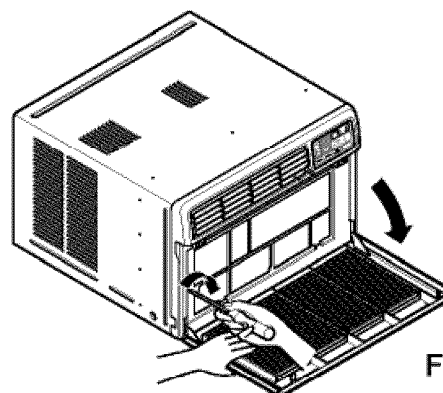

Fig. 11
- 14 Pull down the inlet grille and secure it with a Type A screw 5 through the front grille. (See Fig. 11)